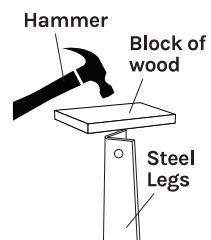

Fig. 2
- Use a hammer and a block of wood to drive each leg into the tapered socket until it is secure (see Fig. 2).